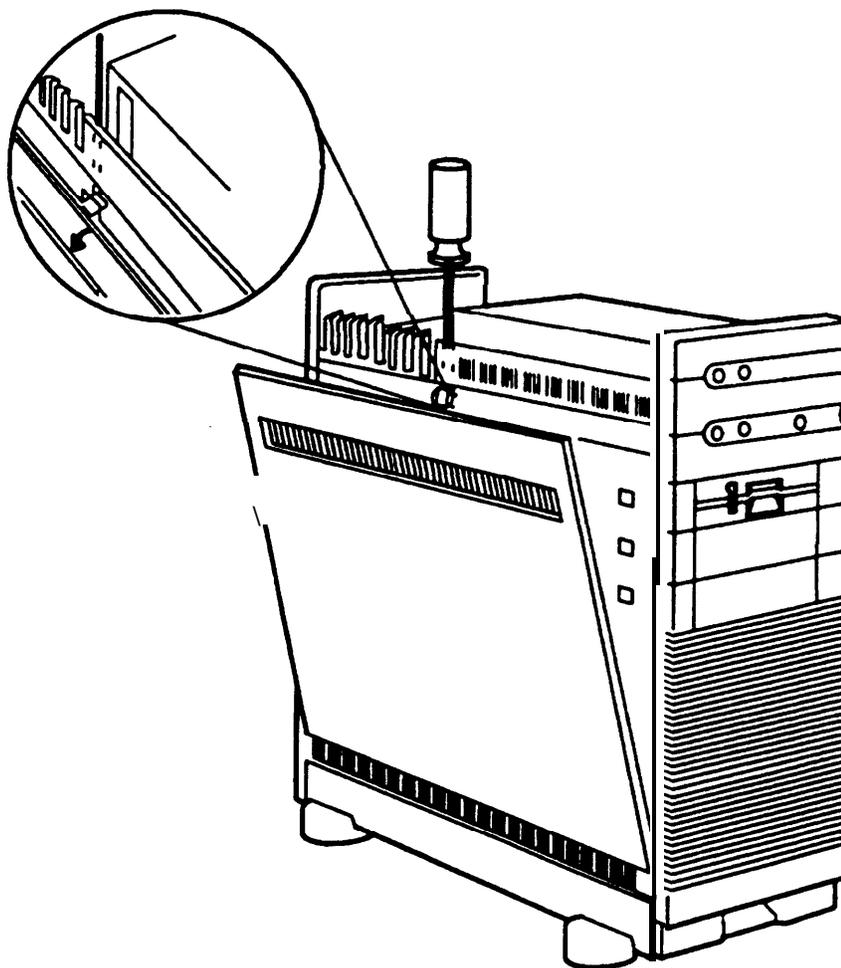

Figure 2-3. 6386E WGS Access Cover Removal
4. Using the Philips screwdriver, loosen the access cover mounting screw located on the top left of the system, just behind the power supply unit (refer to Figure 2-3). There are two screws; remove the outer screw.